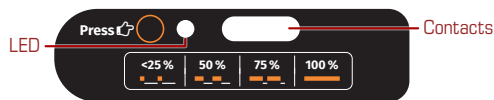

Figure 129: Status check of the black POWERCELL of the RADEAGLET-R.
1. Press the marked button on the contact side of the black POWERCELL (Fig. 129, p. 122).